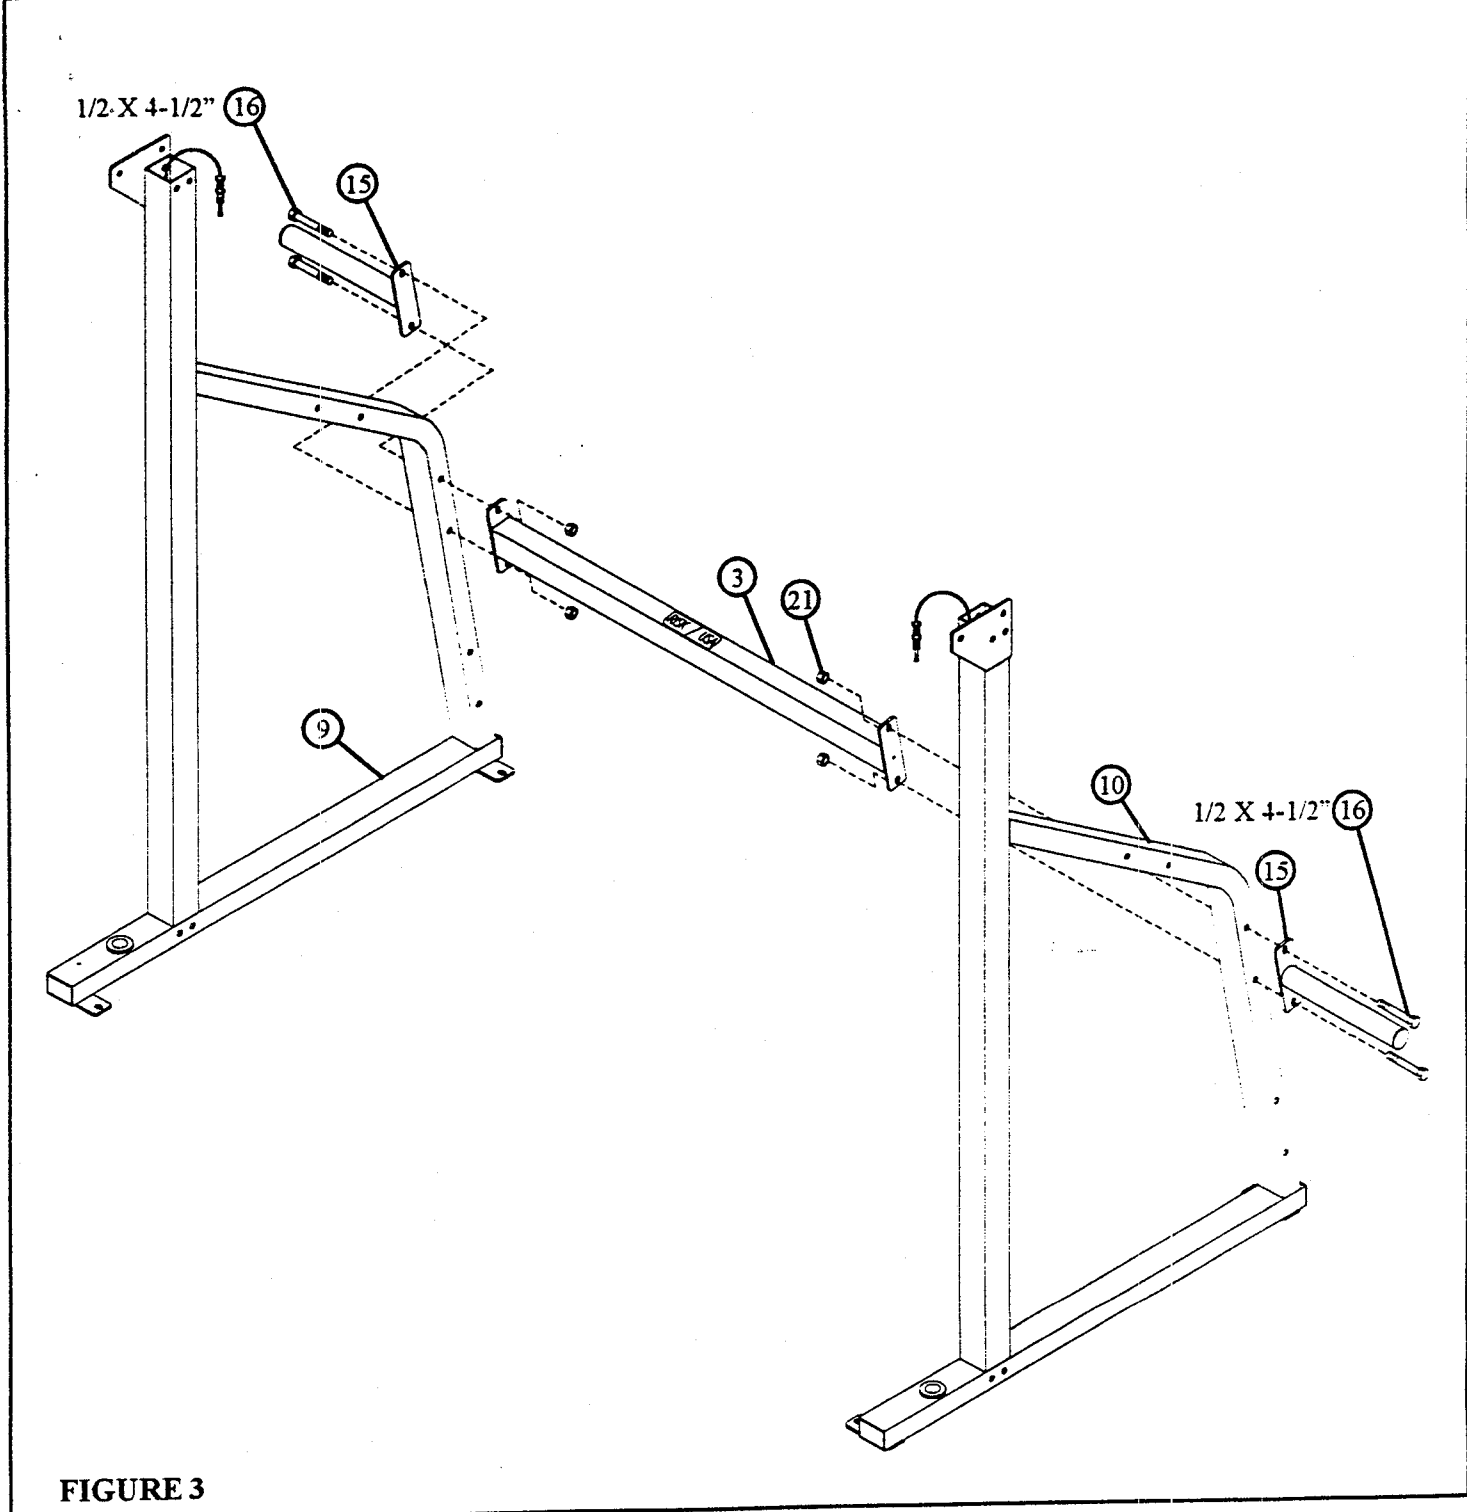

FIGURE 3
- **LOOSELY** assemble the **LOWER SUPPORT (3)** and two **PLATE HOLDER (15)** to the **LEFT & RIGHT UPRIGHTS (9 & 10)** using four **1/2 X 4-1/2" BOLTS (16)** and four **1/2" LOCK NUTS (21)** as shown in **FIGURE 3**.